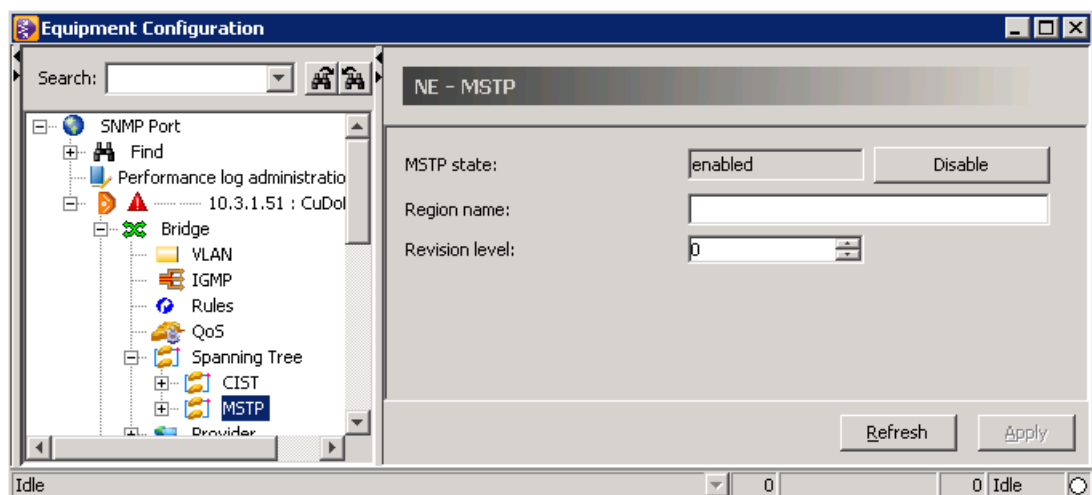

Figure 71 MSTP Dialog Window
2. Click the “Enable” button to change “MSTP state” active, see Figure 71.